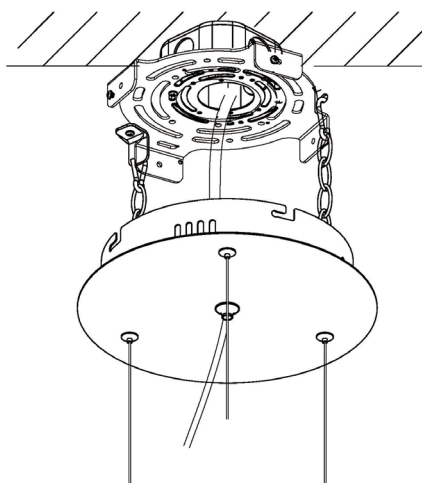

Figure 3
3. Use 4 pieces or 6 pieces (2 for Safe Bracket) M4\*25 Self-Tapping screw to fix Mounting Bracket on the ceiling. and Connect the safety chain between Mounting Bracket and Canopy. See figure 3.